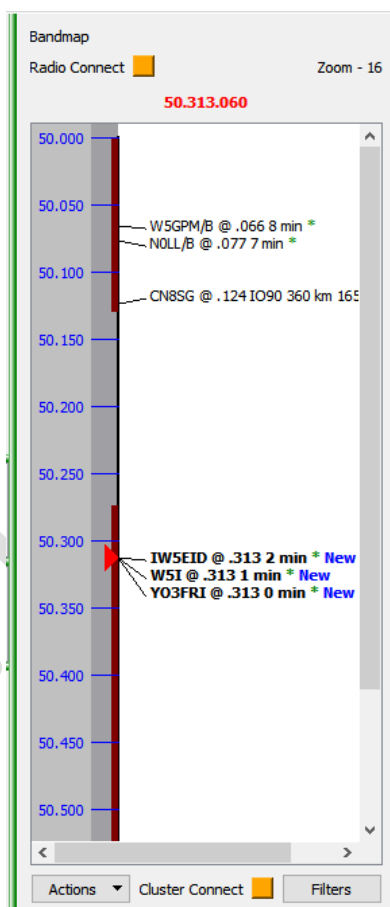

Figure 136 – Bandmap display
An example display is shown in Figure 136. **Beware**: if you don’t see anything, check your filters
To vary the zoom in order to focus on areas of interest use the scroll wheel¹³² while hovering over the grey frequency bar. The current zoom setting (- 16, the least zoom, in Figure 136) is displayed in the top right of the panel. The scroll
- The current rig frequency is indicated by the black ‘play’ symbol (‘dial cursor’ on 144.290 in Figure 136). If this symbol turns red it indicates that it is a frequency/mode pairing that does not match the bandplan.
- If the dial cursor is not viewable, click the dial frequency at the top of the panel (144.290 at top of Figure 136) to bring that frequency back into the viewport.